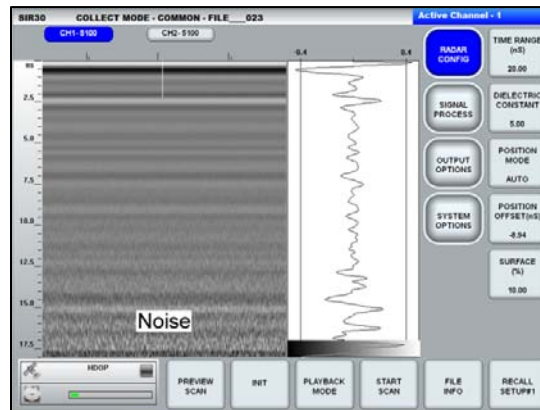
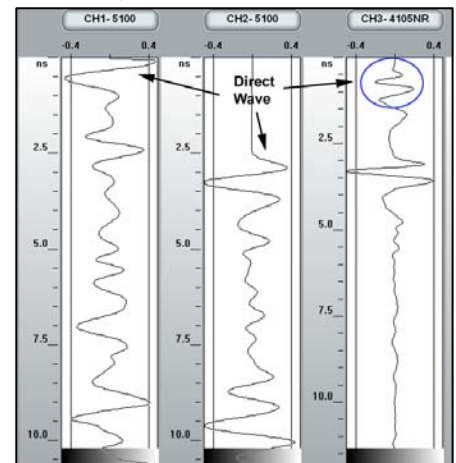

Figure 13: Maximum Time Range (for a 1.6 GHz antenna).
Figure 14: Positioning your Scan.
- a) Set the Time Range long enough to reach an appropriate depth for your application. If you are unsure how deep you are reaching, set the range so that the bottom 10-20% of the signal has a “fuzzy, static filled appearance” as in Figure 13. This is noise that results from a heavily attenuated signal and it is useful to have some of it in your data as a marker of maximum penetration.
- c) **Set the Position and Surface %:** The signal in Figure 13 is properly positioned. Note that the first positive peak of the direct wave is cut by the top of the screen. The direct wave is the first arrival at the receive antenna from the transmit antenna. It represents the beginning of your time range. All GSSI ground coupled, bistatic antennas should be positioned like this. Figure 14 shows two 1.6 GHz ground coupled antennas (left and center) and one 2 GHz Horn antenna (right). The 1.6 GHz antenna on the left is properly positioned with the first strong peak of the direct wave bisected by the top of the window. The center one is positioned too far down the time window. The 2 GHz antenna represents a special case. The direct wave may not be stronger than the ground surface reflection. Be sure to position your Horn antenna so that the direct wave and the ground surface reflection are in the time window. If you need to change it:
- Click on Position Offset (nS) and try different values until your scan looks like Figure 13.